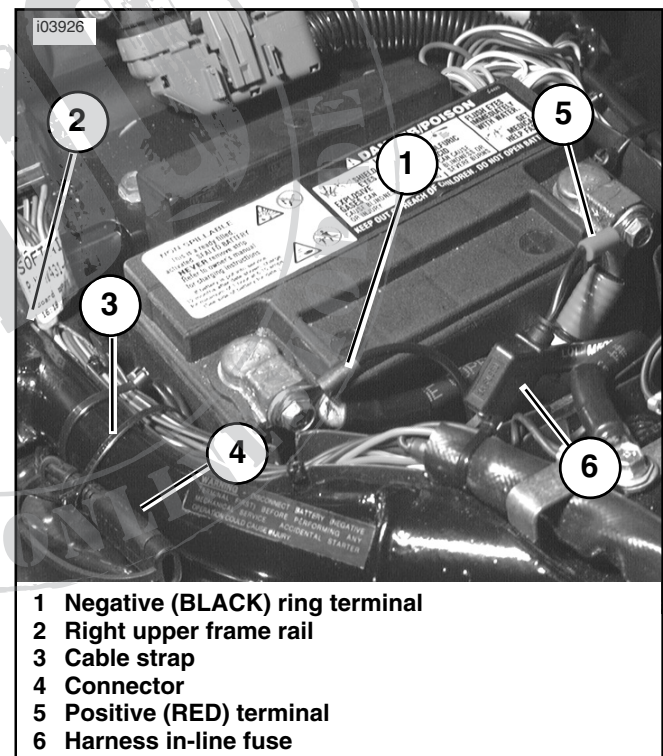

Figure 6. Softail Battery Harness Routing
1. See Figure 6. Route the harness/ connector (4) toward the rear of the battery following along the right side. Cleanly tuck the in-line fuse (6) in the nest directly in front of the battery.
2. Route the harness/ connector between the right upper frame rail (2) and the oil tank. With the connector opening facing toward the front of the bike, use a cable strap (3) and secure to both the inner and outer side of the frame rail. Trim any excess from the cable strap.